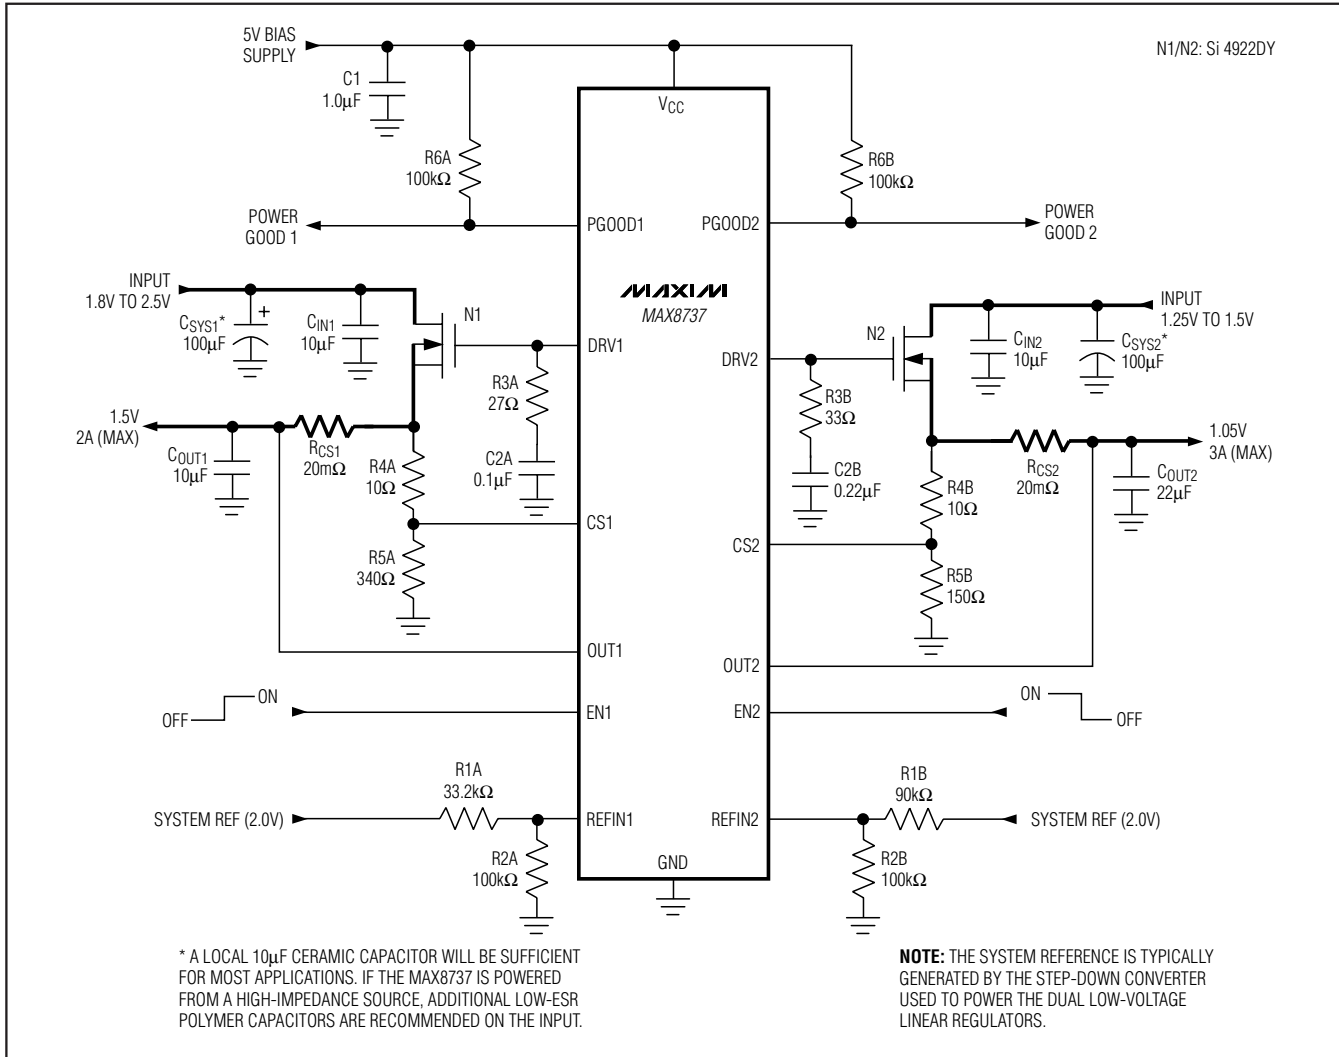

Figure 1. Typical Operating Circuit with Current Limit
(Circuit of Figure 1,  $T_A = +25^{\circ}C$ , unless otherwise noted.)
(Circuit of Figure 1,  $T_A = +25^\circ\text{C}$ , unless otherwise noted.)
The MAX8737 features a current limit that monitors the voltage across the current-sense resistor, which limits  $V_{CS\_} - V_{OUT\_}$  to  $10\text{mV}$  (typ). However, in case of a short-circuit condition, the power dissipation across the external FET will be extremely high. To protect the external FET, the MAX8737 uses an external resistive divider (see Figure 1) to fold back the current limit, reducing the overall power dissipation. The foldback
**Example:** The example below is used to demonstrate the stability calculation for the application circuit in Figure 1.